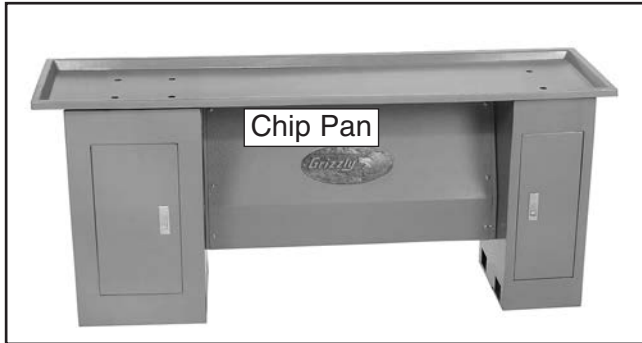

Figure 9. Chip pan in the correct position.
4. Position the chip pan on top of the cabinet stand. Line up the holes in the pan with the holes in the cabinets (see **Figure 9**).